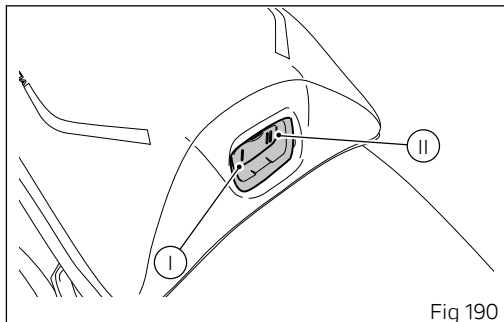

Fig 190
- position (I, Fig 190) to set the level to "Low";
- position (II, Fig 190) to set the level to "High".